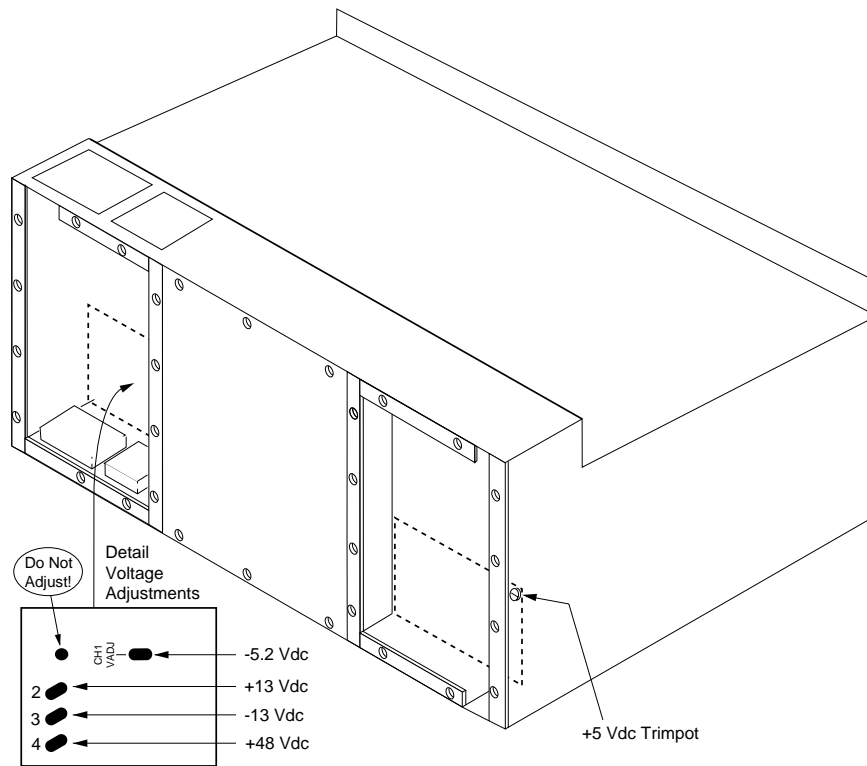
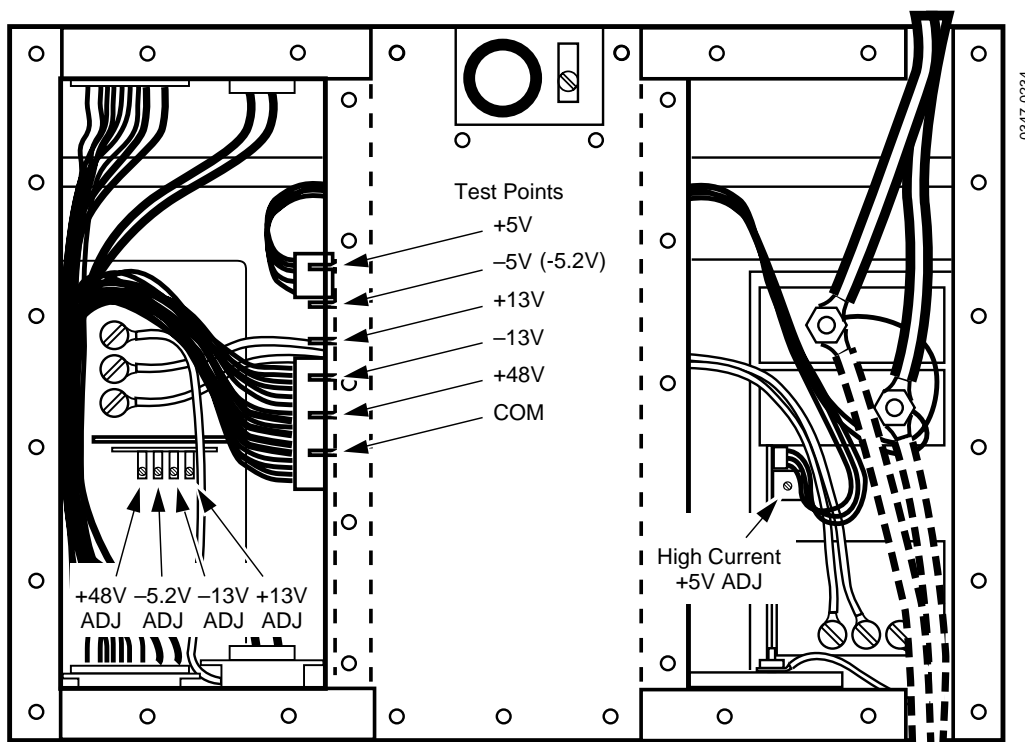

Figure 2-54. Voltage Adjustments for Pioneer Power Supply Units
Figure 2-55. Voltage Adjustments for Todd Power Supply Units
3. Measure the supply output voltages (-5.2, +13, -13, and +48 Vdc) at the test points inside the left rear compartment of the power supply (referenced to the GND test point) and the +5Vdc supply between the power lugs in the right rear compartment (see Figure 2-54 for Pioneer supplies or Figure 2-55 for Todd supplies). Record your measurements on paper.
5. With an insulated screwdriver-type adjustment tool, adjust the redundant supply voltages to within 20mV of the recorded values. Adjustment locations for Pioneer power supplies are shown in Figure 2-54. Adjustment locations for Todd power supplies are shown in Figure 2-55.